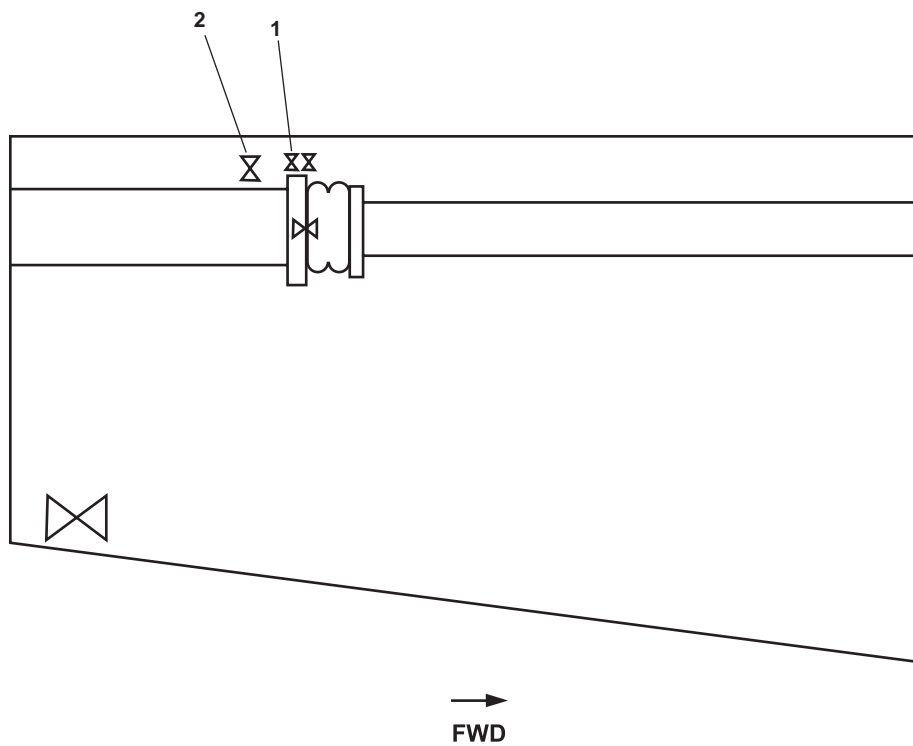

Figure 10. Starboard Shaft Alley
- (17) GS-105 (figure 10, item 1), raw water to starboard stern tube shaft seal gauge valve, located behind the refrigeration plant in AMS 2.
- (19) GS-43, COV-ST TUBE SEAL S (figure 10, item 2), starboard stern tube seal, located on the bottom of the shaft in starboard shaft alley.